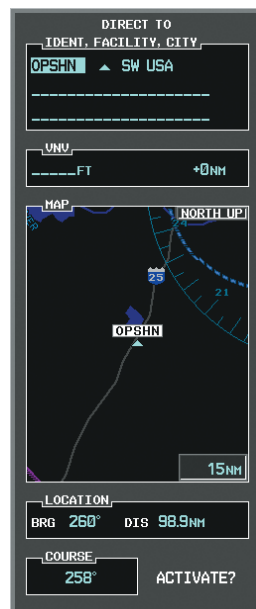

Figure 5-116 Direct To OPSHN
- Press the **Direct-to** (**D>**) Key. The Direct-to Window is now displayed as shown in Figure 5-116.